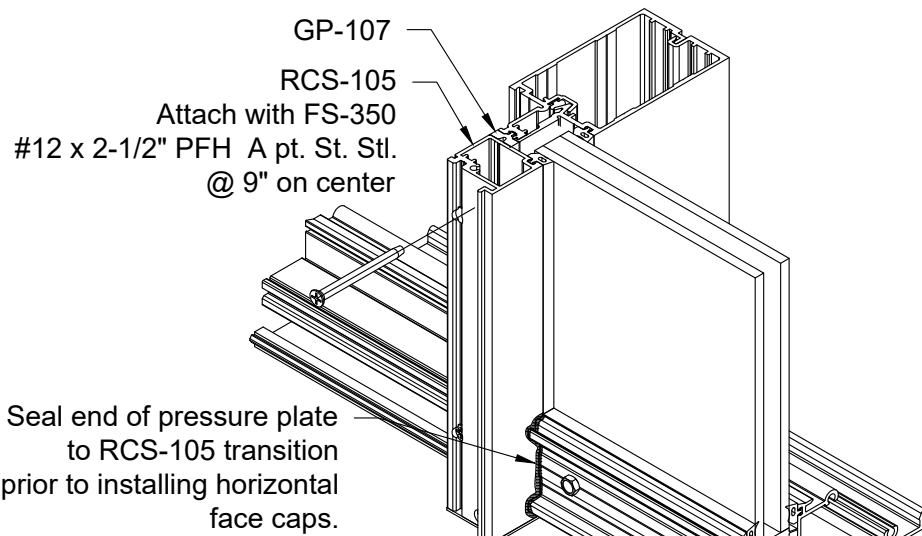
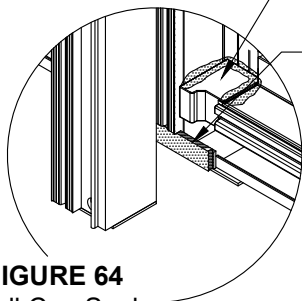

FIGURE 65
FIGURE 64
- 5.4 Prior to installing RCS-105 transition pressure plate, seal face of RCS-109-01 mull cap as shows in FIGURE 64. Glaze captured areas of curtain wall first. SEE FIGURE 65. Retain glass using temporary clips on horizontals and typical captured verticals per Reliance or Reliance-SS manual instructions.